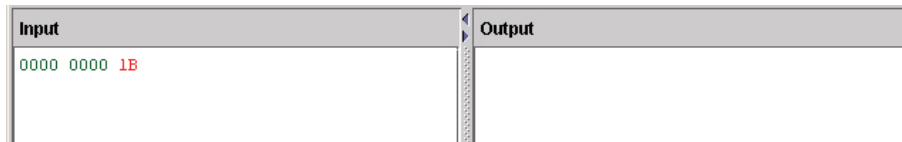

Figure 163 Hex Entry Mode
39. Type **1B**. To enter the hex equivalent of <ESC>. See Figure 163.